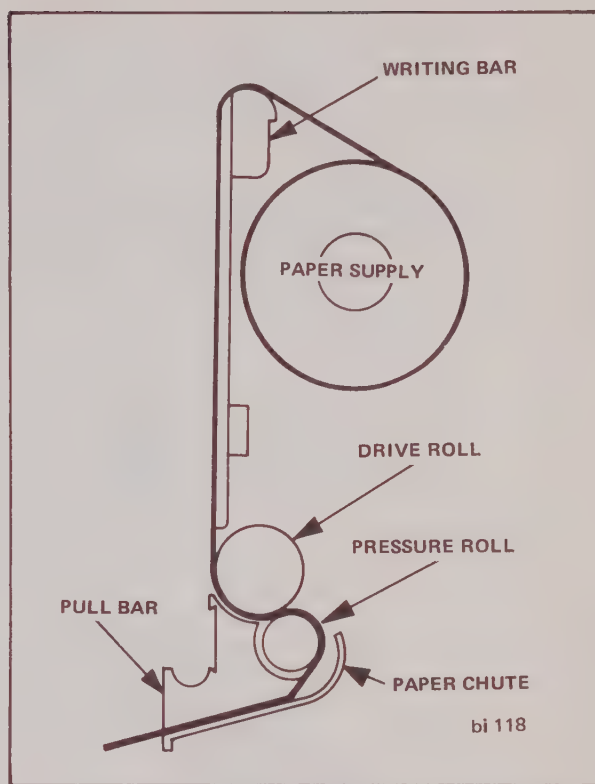

FIGURE 6-3. PAPER THREADING DIAGRAM
8. Refer to Figure 6-3. Feed paper over writing bar, down through slot between pull bar and drive roll, around pressure roll, and out to front of writing table assembly.